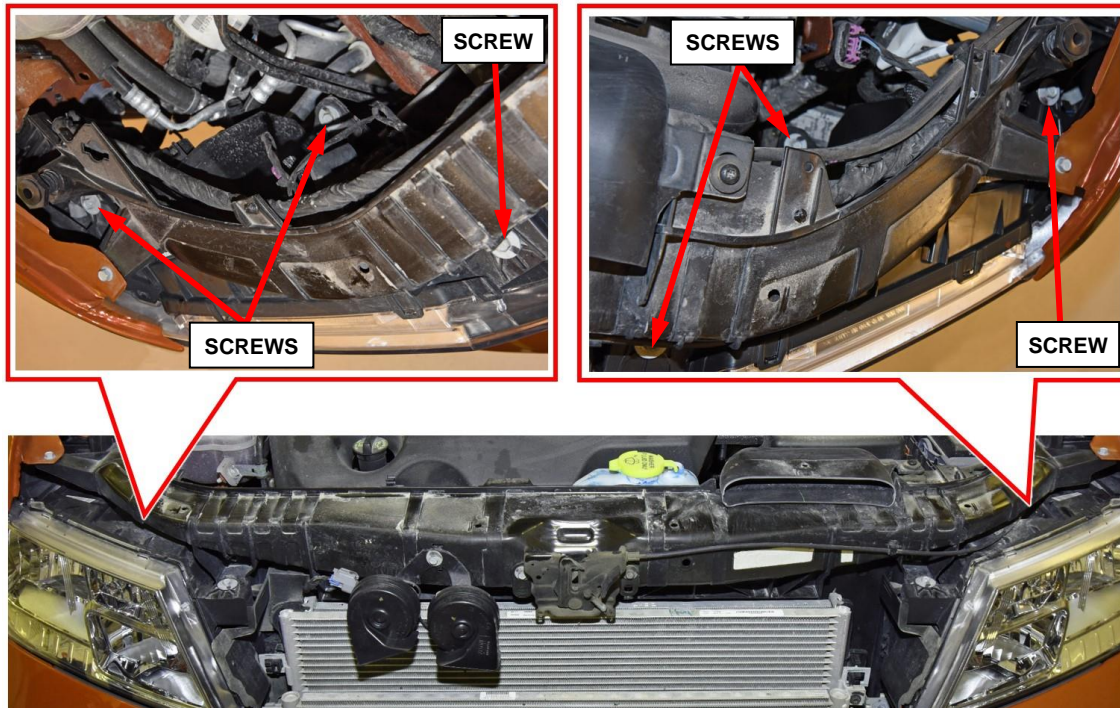

Figure 7 – Front Lamp Fasteners
15. **Both right and left side of the vehicle.** Remove the three screws that secure the front lamp to the FEM (Figure 7).
22. **Both right and left side of the vehicle.** Install the three screws that secure the front lamp to the FEM. Tighten the screws to 6.5 N·m (58 In. lbs.) (Figure 7).